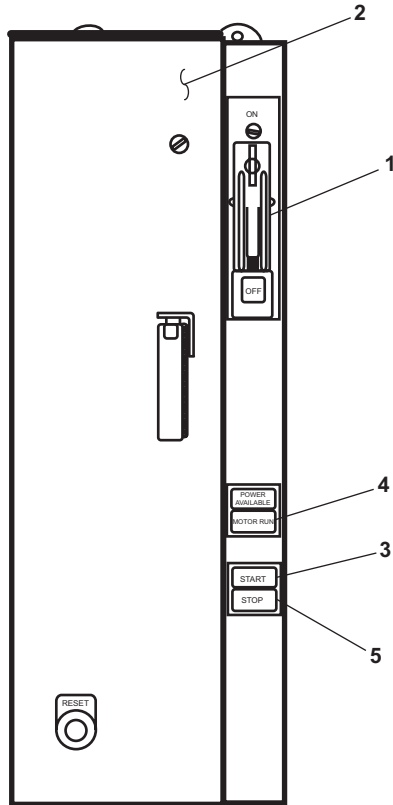

Figure 6. Sewage Discharge Pump Controller
9. Set the ON/OFF switch (figure 6, item 1) to the applicable SEWAGE DISCHARGE PUMP CONTROLLER (figure 6, item 2) to ON.
10. Press the START button (figure 6, item 3). Verify that the motor run light (figure 6, item 4) is illuminated.
12. Press the STOP button (figure 6, item 5) on the applicable SEWAGE DISCHARGE PUMP CONTROLLER (figure 6, item 2).
13. Set the applicable ON/OFF switch (figure 6, item 1) to the SEWAGE DISCHARGE PUMP CONTROLLER (figure 6, item 2) to the OFF position.